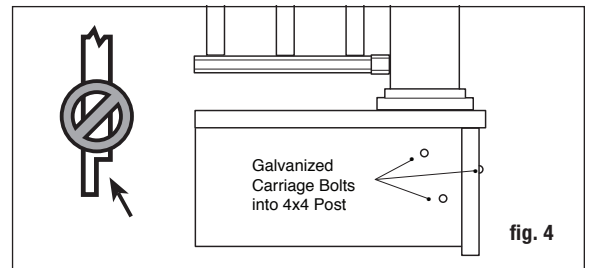

fig. 4
Step 2 Install railing posts prior to installing deck boards. Cedar or pressure-treated pine 4x4 railing posts or a post mount provides the structural strength for the railing. The length of each post is determined by the total of the joist height (typically 7-1/4") + decking thickness (1") + railing height (36") + spacing for post cap (2") = 46-1/4". **Important: Do not notch the 4x4 railing posts. Notching will reduce the strength of the post and could result in railing collapse or failure (fig. 4).**
Step 3 Position, plumb with a level, and clamp the railing post on the interior face of the joist. Plumb again. The 4x4 railing post should be bolted to the inside of the joist using two 1/2" x 6" galvanized carriage bolts. Corner posts use a third carriage bolt inserted through the adjacent joist (fig. 4).
Step 2 Install stair railing posts prior to installing stair treads. Cedar or pressure-treated pine 4x4 railing posts or a post mount provides the structural strength for the stair railing. The length of each post is determined by the total of the stringer width + tread thickness + stair railing height + spacing for post cap. **Important: Do not notch the 4x4 railing posts. Notching will reduce the strength of the post and could result in railing collapse or failure (fig. 4).**